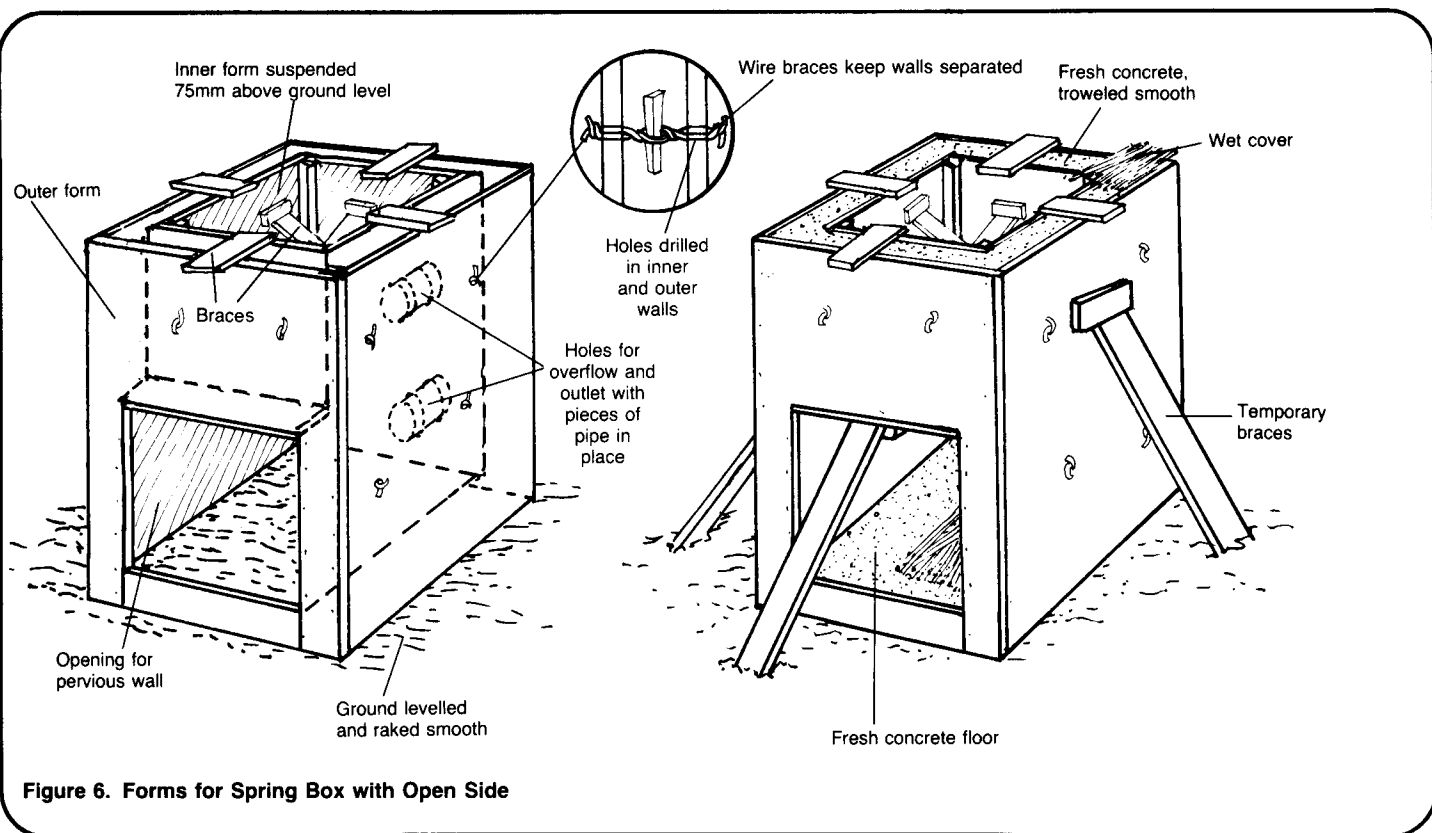

Figure 6. Forms for Spring Box with Open Side
1. Build wooden forms. Cut wood to the appropriate sizes and set up the forms on a level surface. The outside dimensions of the forms should be 0.1m larger than the inside dimensions. A form with an open bottom should be built for a spring flowing from one spot on level ground. For springs from hillsides, a spring box form with a partially open back must be constructed as shown in Figures 6 and 7. The size of the opening depends on the area which must be covered to collect the water. When building forms for a box with a bottom, be sure to set the inside forms 0.1m above the bottom for the floor. This is done by nailing the inside form to the outside form so that it hangs 0.1m above the floor. Make holes in the forms for the outflow and overflow pipes. Place small pieces of pipe in them so that correctly sized holes are left in the spring box as the concrete sets. A form for the spring box cover must also be built. Build all forms at the site.
Forms must be well secured and braced before pouring the concrete. Cement is heavy and the forms will separate if the bracing is not strong enough. One useful method is to tie the braces together with wire as shown in Figures 6 and 7. Drill holes in the forms and place wire through them. Using a stick, as shown, twist the wire to tighten it and force the forms together.